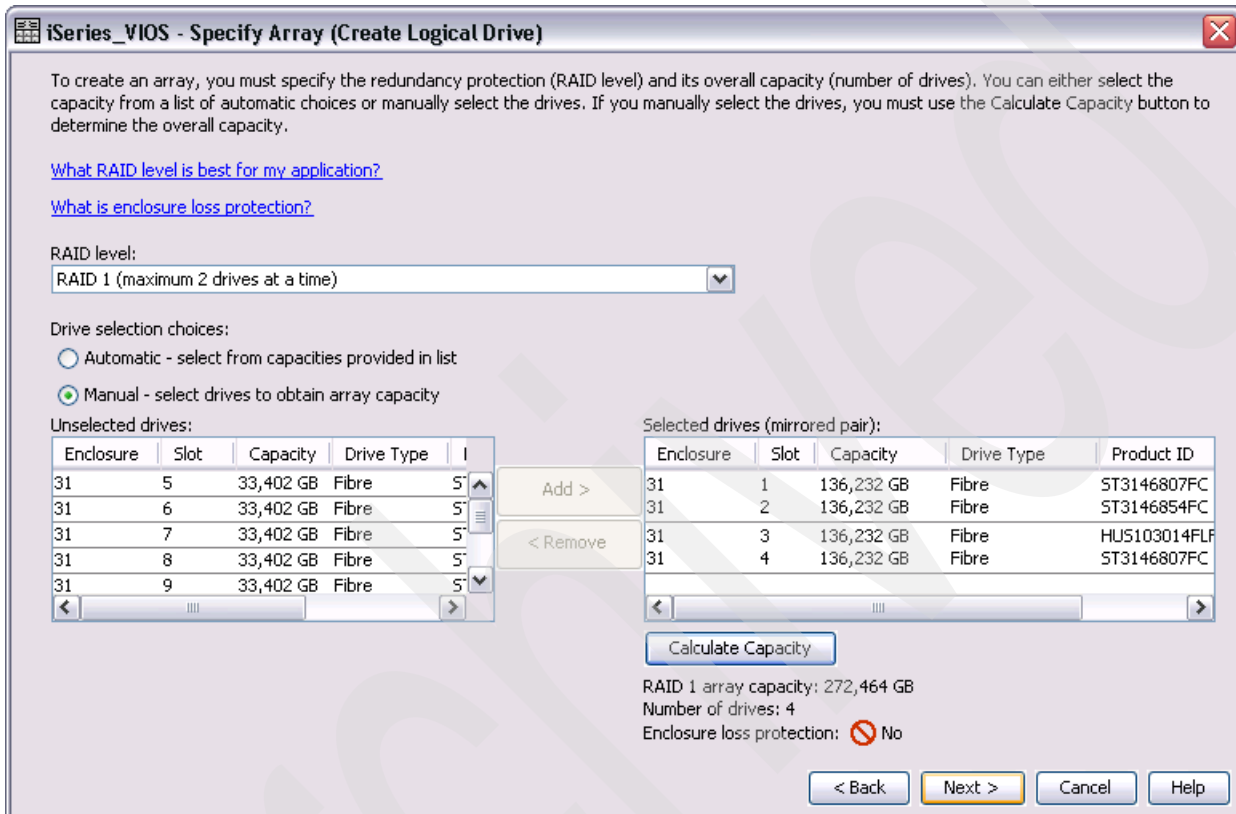

Figure 7-53 DS Storage Manager Create Logical Drive dialog after Calculate Capacity
- We get the resulting capacity of our RAID-10 array of ~272 GB and click **Next** to proceed, as shown in Figure 7-53.